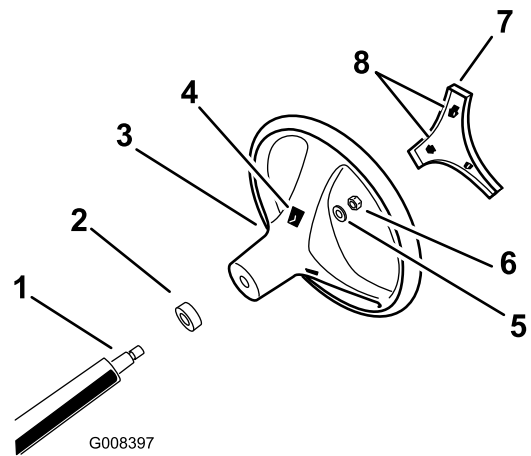

Figure 3
4. Secure the steering wheel to the shaft with the locknut (Figure 3). Torque the locknut to 24 to 29 N-m (18 to 22 ft-lb)
5. Align the tabs of the cover with the slots in the steering wheel, and snap the cover onto the steering-wheel hub (Figure 3).